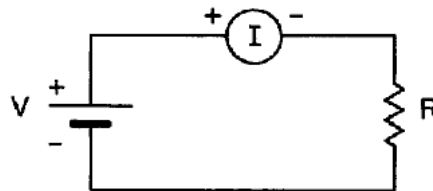

Figure 11-5. Using a multimeter (shown by the circle with an I) to measure current, as shown in Figure 11-1(c) .
9. Disconnect the circuit and then hook it up according to Figure 11-5. (Do not accidentally set the decade box lower than $50\ \Omega$ for this circuit.)